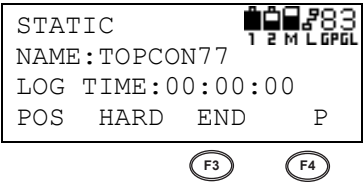

Figure 3-30. Static Observation Menu Selection
12. Press **F3** (END) to end the survey (Figure 3-30).